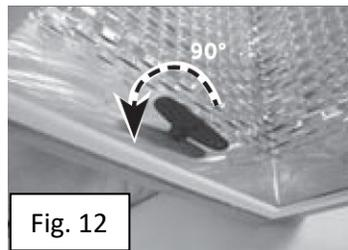

Fig. 12
- Turn the key counterclockwise 90 degrees, repeat on all applicable sides. [Fig. 12]